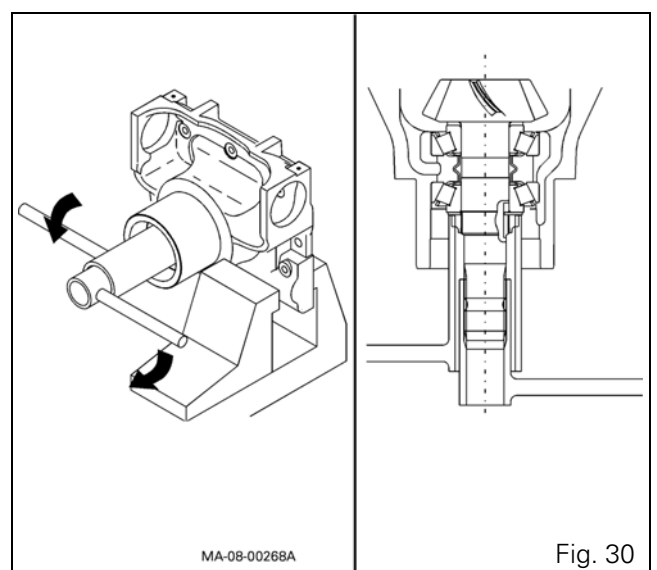

Fig. 30
**35.** Screw the nut on with the wrench ref. CA119099 while holding the gear in place with the tool ref. CA715022 (see § J) (Fig. 30)